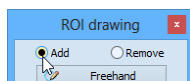

Figure 261 – Set Add/Remove mode for contour editing
2. Select the adding contour mode (see Figure 261). To add a drawn contour to the ROI, check the **Add** radio button. To remove a drawn contour from the ROI, check the **Remove** radio button.